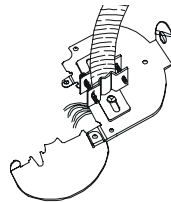

Figure 7
b) **Tightening onto flexible or hard conduit.** The supplied fitting accommodates up to 3/8 inch (9.5mm) flexible conduit. Slide the wiring through the strain relief fitting on the terminal cover plate. Insert the conduit into the strain relief fitting. Re-insert the horizontal screw that was previously removed. Use the two horizontal screws that clamp the fitting together, clamping the conduit securely between them. (Figure 7)